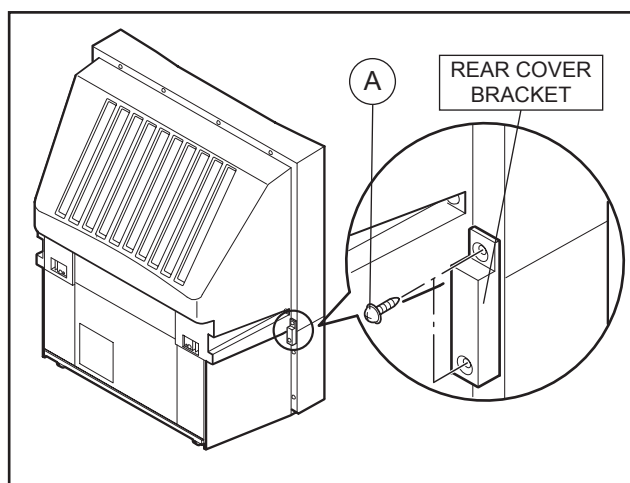

Fig.1
- (1) Remove the 2 screws [**A**] on the left rear side of the set, and then remove the rear cover bracket. [Fig.1]